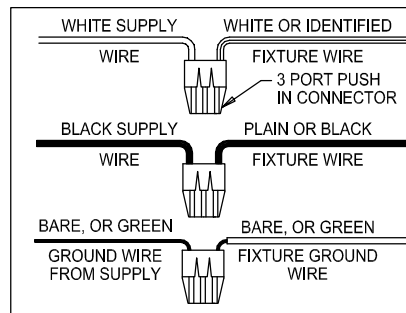

FIG.4
- 4.- Run Supply Wires through UL Listed Connectors (not supplied) in one of the seven Pryouts (7) on the Junction Box (8) or Type NM cable (ROMEX) through an Opening above the Wire Retaining Plate (9). Connect Wires (10) as shown in Fig 4. Replace Cover.